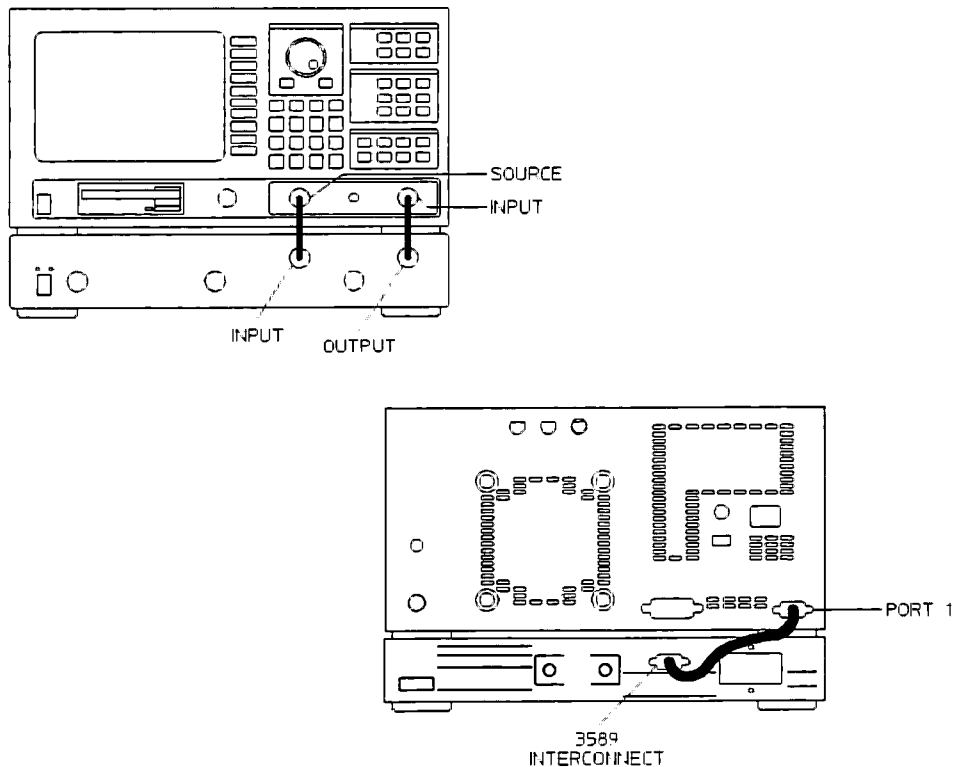

Figure 2-6. S-Parameter Test Set Connections
2. Place the analyzer on top of the test set (see figure 2-6).